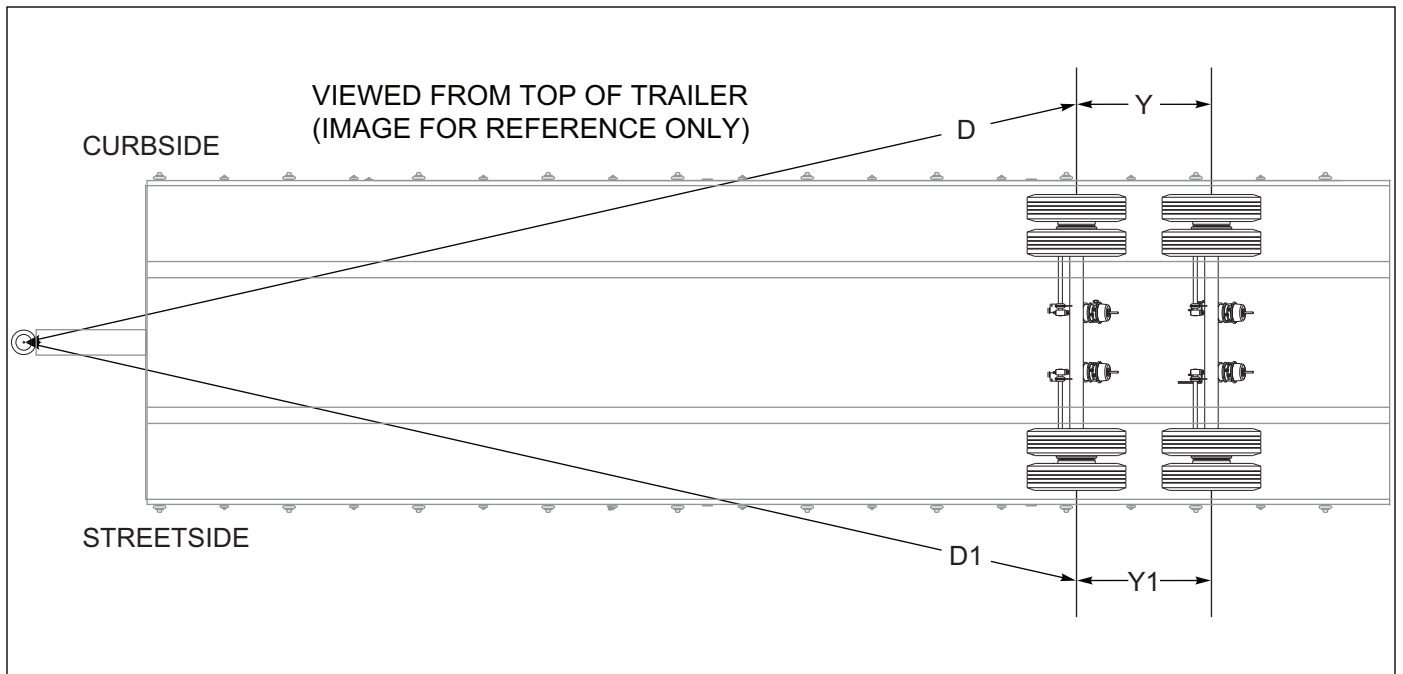

Figure 4-9: Checking Axle Alignment
5. Measure **Curbside (D)** from the plumb bob to the 1st axle center. Measure **Streetside (D1)** from the plumb bob to the 1st axle center. **Curbside (D)** should be about 1/8 in (3.18 mm) shorter than **Streetside (D1)**, See Figure 4-9.
2. Measure from 1st axle center to the trailer 2nd axle center on the curbside then the streetside. Measurements should be the same. Use **(Y)** and **(Y1)** as reference, **See Figure 4-9.**
5. Measure **Curbside (D)** from the plumb bob to the 1st axle center. Measure **Streetside (D1)** from the plumb bob to the 1st axle center. **Curbside (D)** should be about 1/8 inch (3.175 mm) shorter than **Streetside (D1)**. *See Figure 4-9.*
2. Measure from 1st axle center to the trailer 2nd axle center on the curbside then the streetside. Measurements should be the same. Use **(Y)** and **(Y1)** as reference. *See Figure 4-9.*